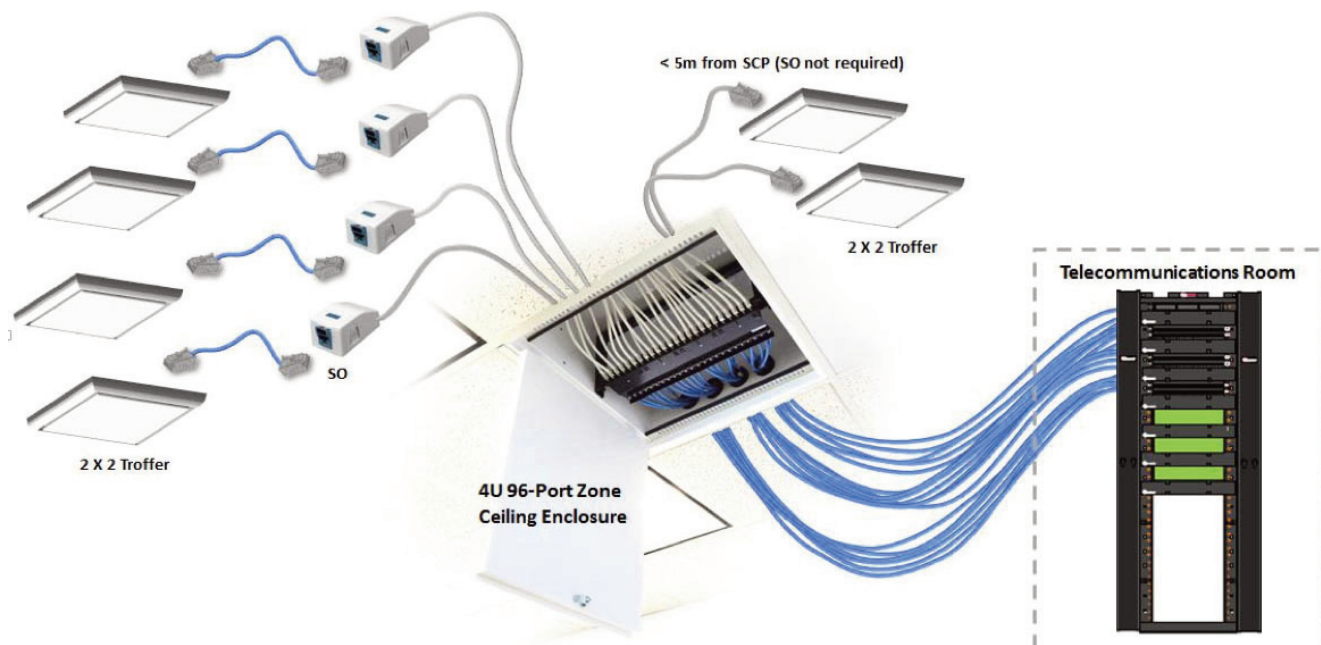

Figure 4: Example Zone Cabling for 2x2 Fixture Centric PoE Lighting Design
Zone cabling is an industry-recognized structured cabling deployment strategy that is highly suited to support arrangements of devices, such as luminaires and lighting controllers, which are logically distributed throughout a ceiling space. A zone cabling design for PoE lighting consists of horizontal cable run from the floor distributor in the telecommunications room (TR) to an intermediate connection point called the service concentration point (SCP), which is an outlet housed in a zone enclosure located in the ceiling space. Due to the density of PoE lighting devices, zone enclosures typically accommodate 96 SCP outlets and may be designed to replace a ceiling tile in drop ceiling applications. A cable or cord connects each SCP outlet in the zone enclosure to either a service outlet (SO) or directly to a PoE lighting device as shown in figure 4. In lighting applications, this type of zone topology – where all of the PoE switches are located in the TR – is sometimes referred to as a “centralized” deployment.